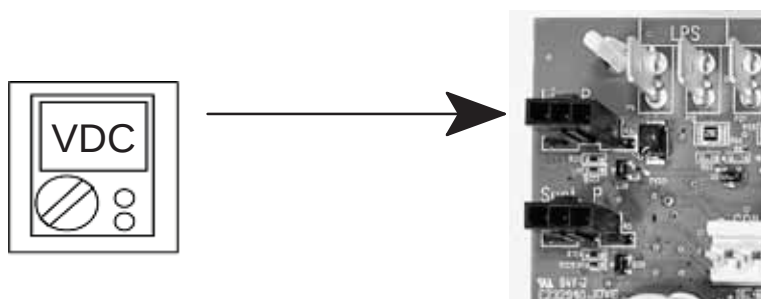

Figure 26. Liquid Pressure Transducer Voltage
- **Low Suction Pressure Protection** – See figure 26 for low suction pressure protection sequence of operation.